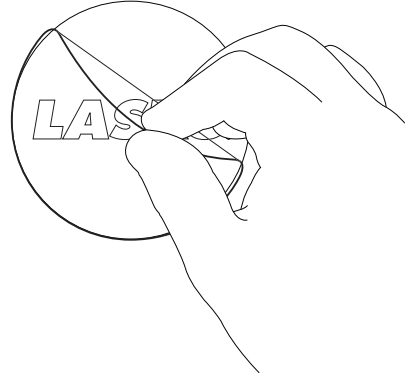

Figure 2
3. Remove plastic film from ornament and discard. (Figure 2)
All the functions performed with the Remote Control work identically to the manual controls. (Figure 2)
1. Install batteries (not supplied) as shown in Figure 2. The battery is type "AAA".